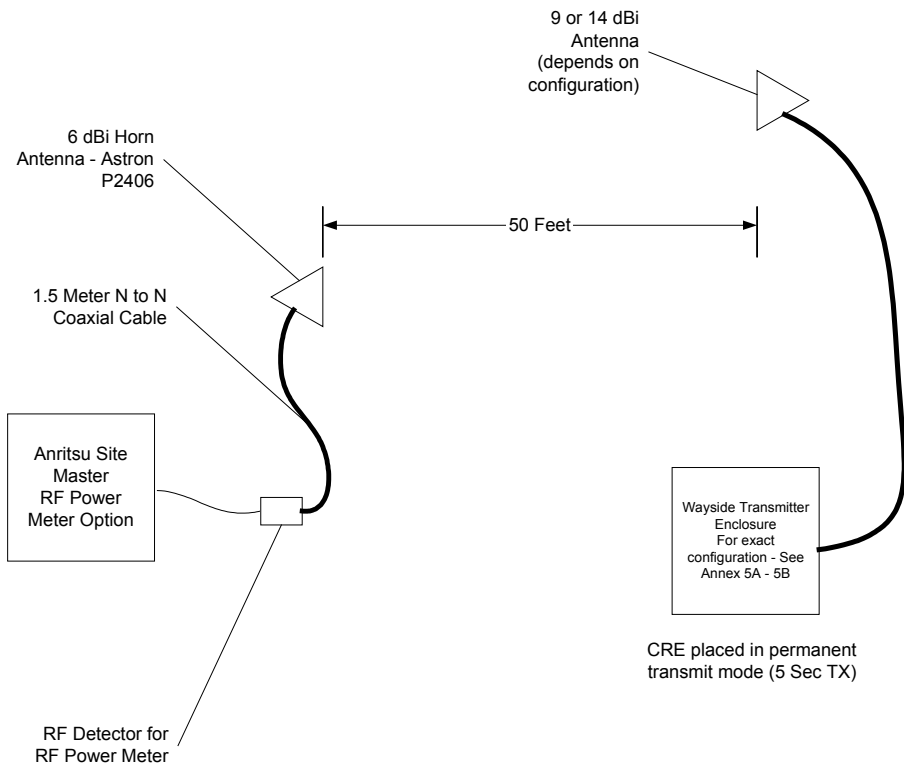

Figure 6.2 - RF Measurement of CRE w/Antenna at 50 Ft.
2. RF measurement of system at 50 ft. This measurement will be performed using a RF Power Meter, 6 dB Horn antenna, and a 1.5 meter coaxial cable at a distance of 50 feet from the antenna. These measurements will be made with the CRE in continuous transmit mode. The measurements will be recorded in the RF Power Measurement at 50-Ft. column in the Test Record Form in Annex TR. This test is detailed in Figure 6.2 below.